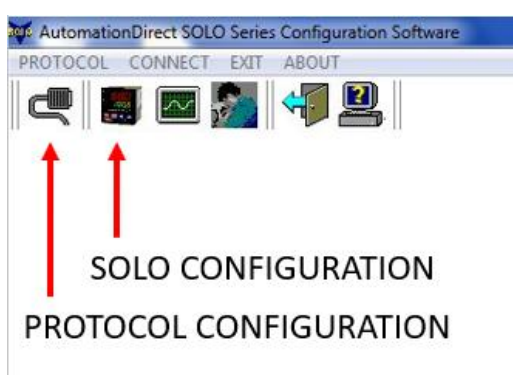
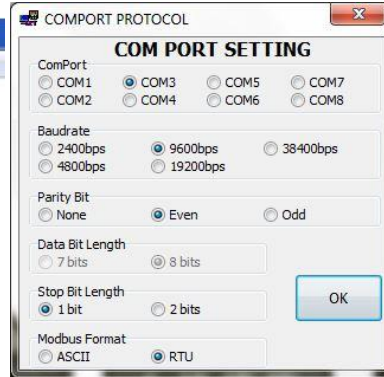

Figure 5: SOLO main screen.
Figure 6: COM port configuration
- c. Optional: Click on "PROTOCOL CONFIGURATION" (Figure 5), double-check the values match Figure 6, and click "OK".
- d. Click on 'SOLO CONFIGURATION' (Figure 5) to go to the main working page.